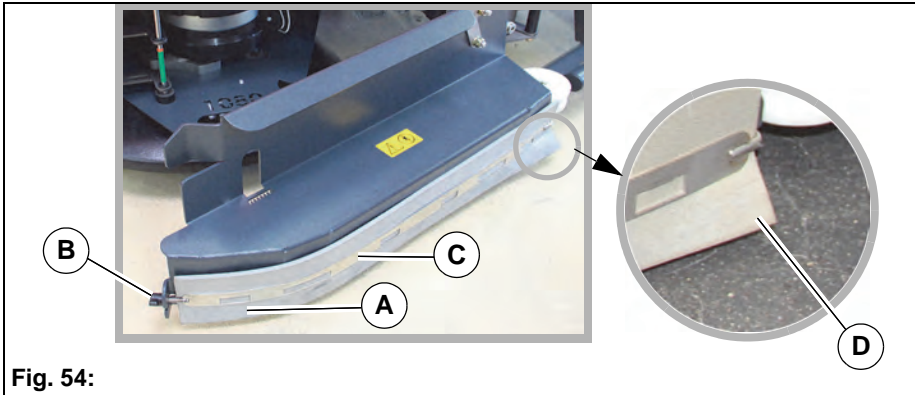

Fig. 54:
Check the rubber of the wiper **Fig. 54-A** weekly for wear, turn or replace the rubber if necessary.
1. Loosen the wing nut **Fig. 54-B**.
2. Remove the clamping band **Fig. 54-C**.
During installation, ensure that the corner of the wiper rubber is pointing outwards **Fig. 54-D** so that the wiper rubber folds over outwards during operation.